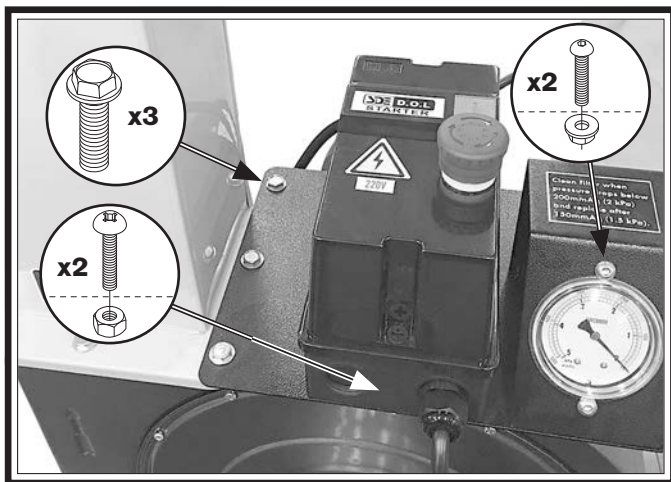

Figure 15. Switch box mounted on outlet tube.
5. Attach pressure gauge to gauge bracket using (2) $\frac{1}{4}$ "-20 x $\frac{1}{2}$ " button head cap screws and $\frac{1}{4}$ "-20 flange nuts (see **Figure 15**).
6. Attach gauge bracket to outlet tube with (3) $\frac{5}{16}$ "-18 x $\frac{1}{2}$ " flange bolts using remaining mounting holes (see **Figure 15**).
7. Loosen existing Phillips head screws and remove switch box cover from switch box (see **Figure 15**).
8. Attach switch box to gauge bracket with (2) 10-24 x $\frac{3}{4}$ " Phillips head screws and 10-24 hex nuts (see **Figure 15**).